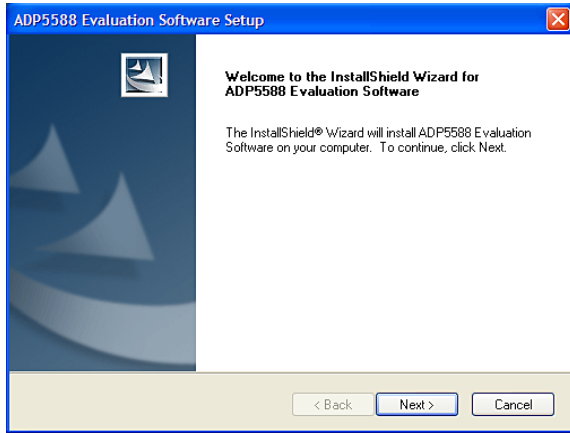

Figure 4. ADP5588 Evaluation Software Setup
1. Insert the ADP5588 evaluation CD and run the **ADP5588 Setup.exe** file. When the screen in Figure 4 appears, click **Next >**.